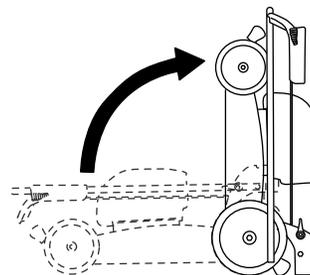

Figure 22
6. Lift the front of the machine by the handle and move it into a storage space (Figure 22).